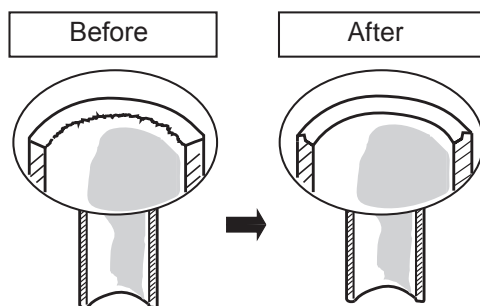
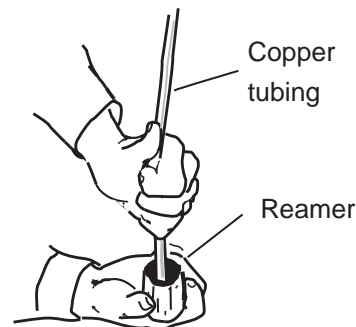

Fig. 6-1
Fig. 6-2
2. Remove burrs at each end of the copper tubing with a tube reamer or file. This process is important and should be done carefully to make a good flare. Be sure to keep any contaminants (moisture, dirt, metal filings, etc.) from entering the tubing. (Fig. 6-1 and Fig. 6-2).
When reaming, hold the tube end downward and be sure that no copper scraps fall into the tube. (Fig. 6-2)